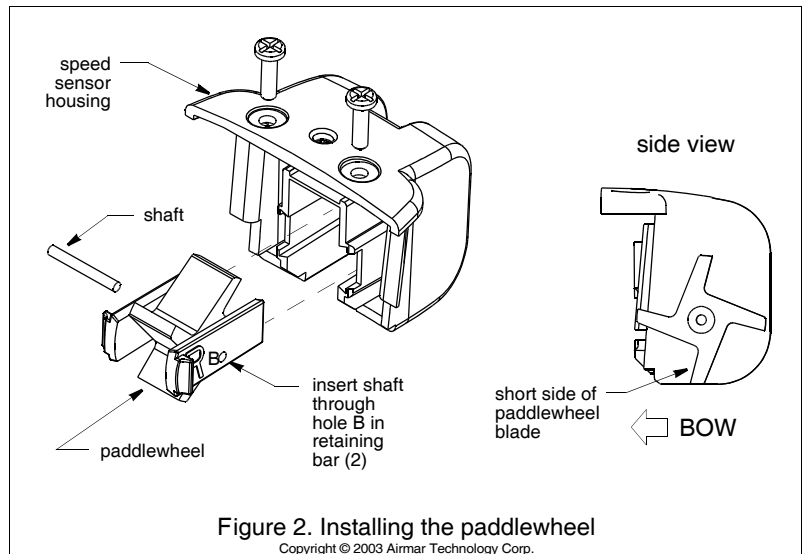

Figure 2. Installing the paddlewheel
3. Slide the paddlewheel onto the shaft (Figure 2). *Orient the short side of the paddlewheel blade as shown in the side view.*